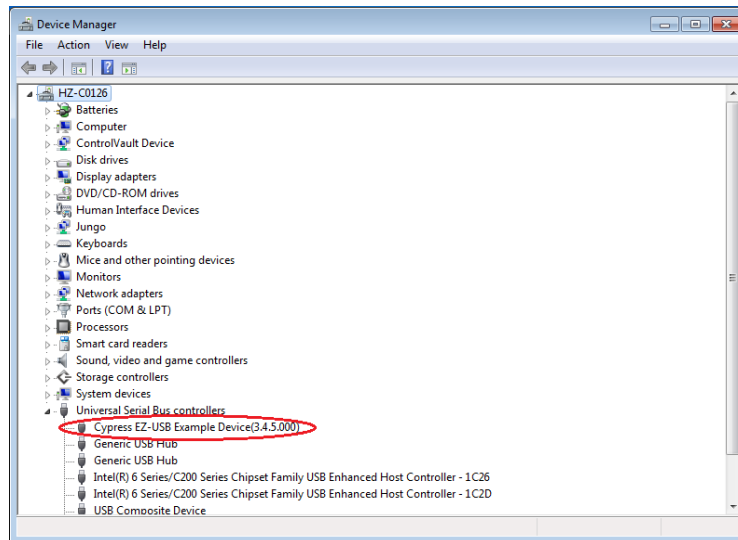

Figure 7: Dongle Recognized by Computer
2. After the dongle is recognized by the computer (see Figure 7), locate the proper wires to connect the EVB to the EVHR1200 PMBUS Kit-01A dongle.